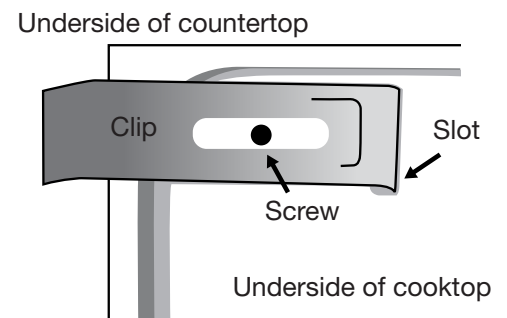

Figure 7
- 3 Secure cooktop from underneath with the supplied clips and screws (see Figure 7).